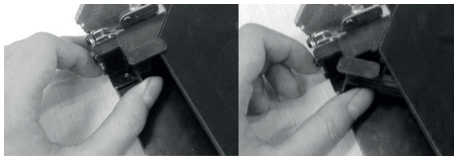

Fig. 1
2. According to Fig. 1, press the „levers“ near the hinges on both sides of the door to unlock the locks.